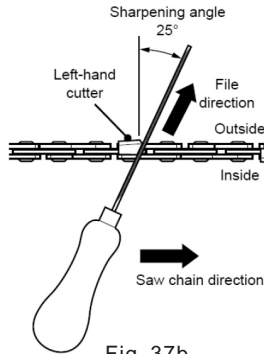

Fig. 37b
6. File at an angle perpendicular to the bar, and at an angle of 25° to the direction of travel. (See Fig. 37b)